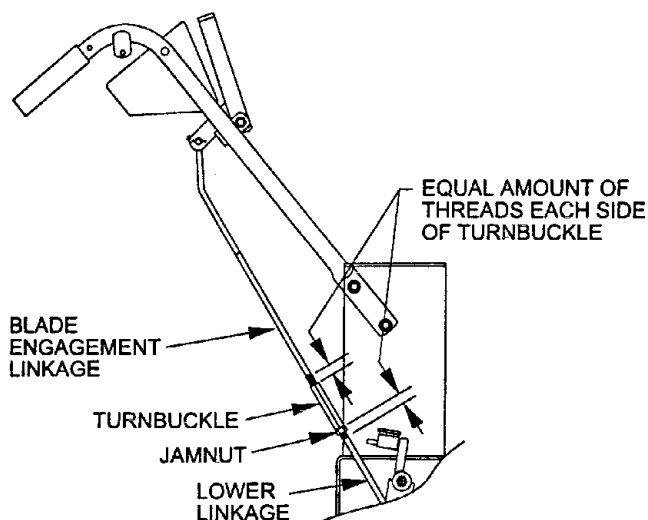

FIG 4
- 3.9 Connect the blade engagement linkages. Loosen jamnut and remove turnbuckle from lower linkage. Screw turnbuckle onto both upper and lower linkages simultaneously. See fig. 4. Note that threads on upper linkage are left hand. See 5.2.2 for linkage adjustment.